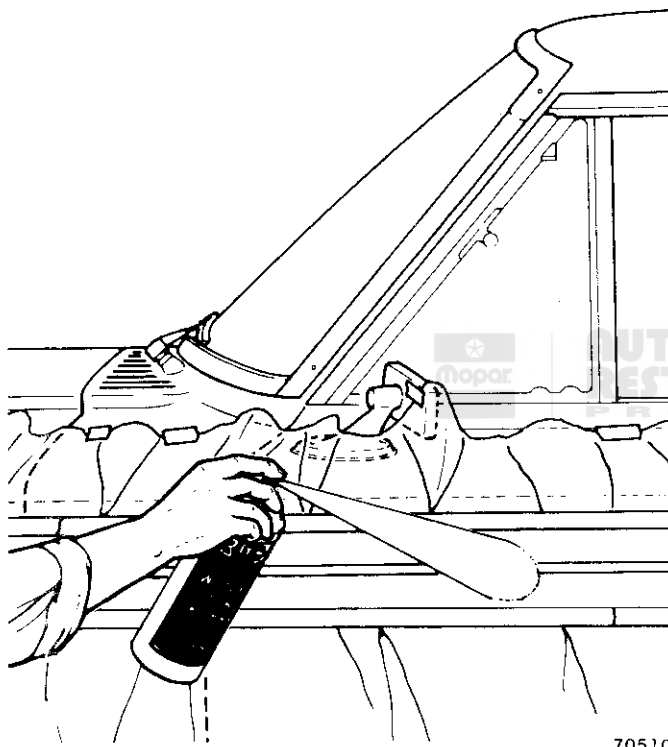

Fig. 3P-10 Spraying Remover on Decal
- (1) Clean repair surfaces, adjacent panels and openings as required.
- (2) Remove decal overlapping parts from affected panel.
- (3) Mask off area surrounding the panel.
- (4) Spray 3M Woodgrain and Stripe Remover, or equivalent, on flange area first. Then spray entire decal to be removed (fig. 3P-10). Move spray back and forth across entire decal in a smooth steady motion. Make sure entire decal is coated with remover.